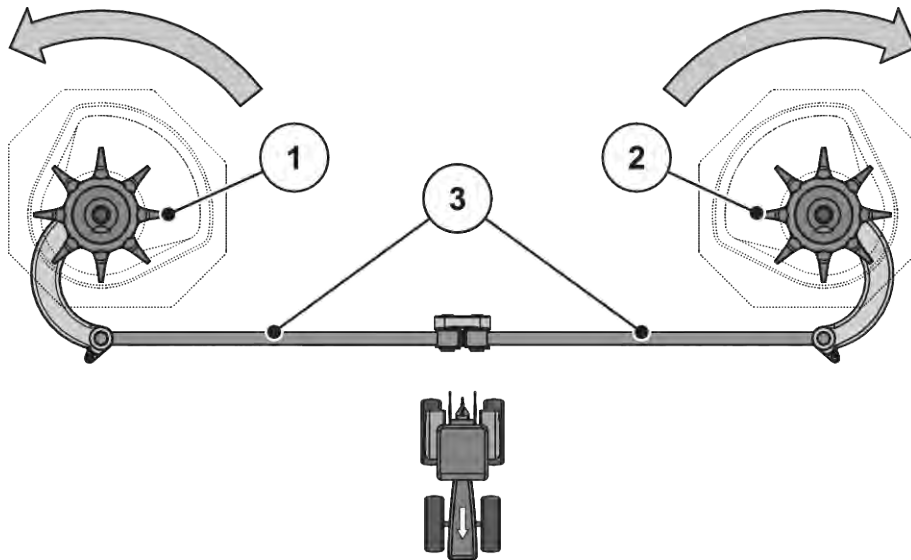

Fig. 54: Checking the agitator drive
- Manually turn the agitator head **into the rotational direction of the spreading disc**. See *Fig. 54 Checking the agitator drive*.
- Turn the agitator head manually or with the help of an oil filter belt forcefully **against the rotational direction of the spreading disc**. See *Fig. 54 Checking the agitator drive*